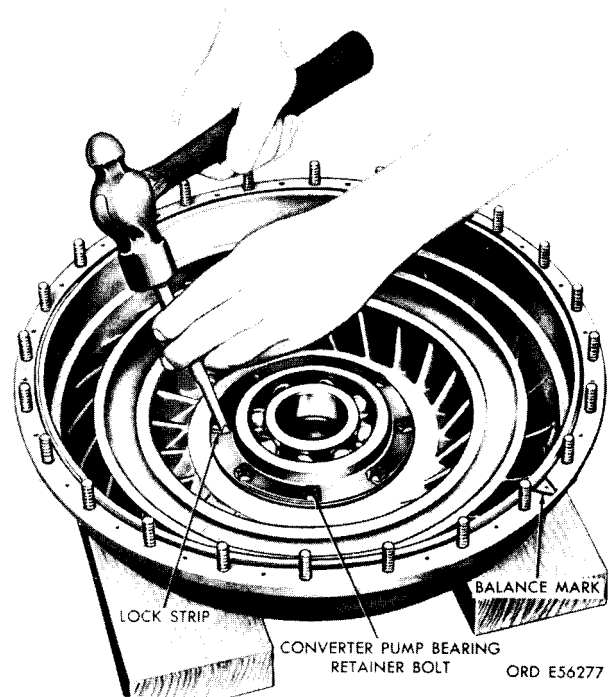

Figure 5-55. Flattening lock strip tab.
(3) Flatten lock tabs and, using a 7/16-inch wrench, remove four tabs and eight bolts (fig. 5-55).